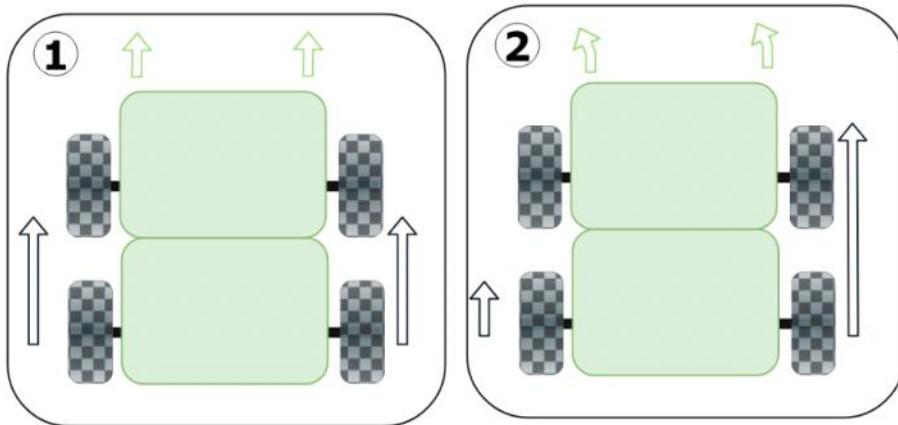

Figure 7.4 – Fixed-wheel steering or skid steering
One or both sides are going backward.	The motor wires are the wrong way. On the motor terminals only, swap the black and red wire. Refer to Figure 7.4 and Figure 7.5 for help.
*Figure 7.4* shows this in action. The white arrows show the relative speed of the motors. The green arrows show the direction of the robot.